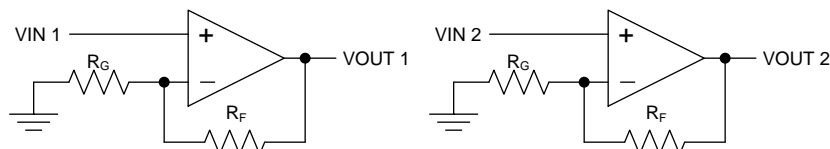

Figure 40. Schematic Representation for Figure 41
- Place the external components as close to the device as possible. Keep R_F and R_G close to the inverting input to minimize parasitic capacitance, as shown in Figure 40.